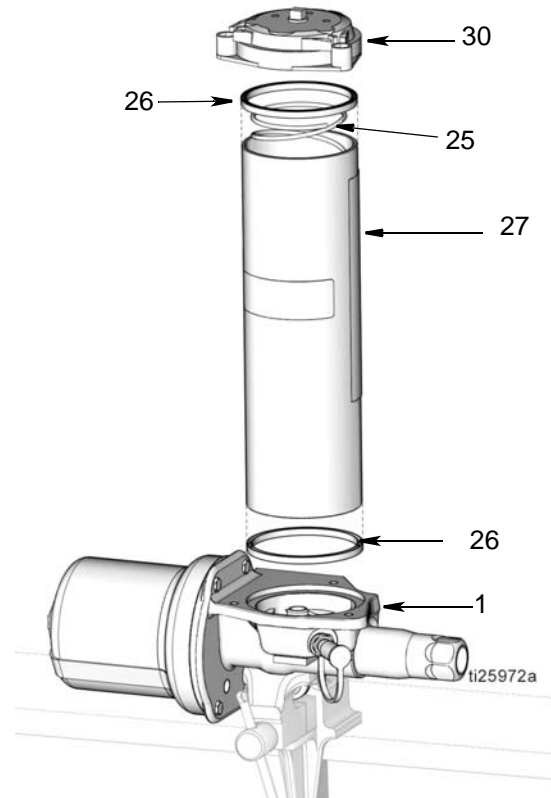

FIG. 14
10. Remove cover (30) and spring (25) from reservoir (27) (FIG. 14).
11. Remove reservoir (27) from pump base (1) (FIG. 14). If replacing reservoir gaskets (26), remove gaskets from reservoir. Dispose of gaskets according to all regulations for proper disposal.